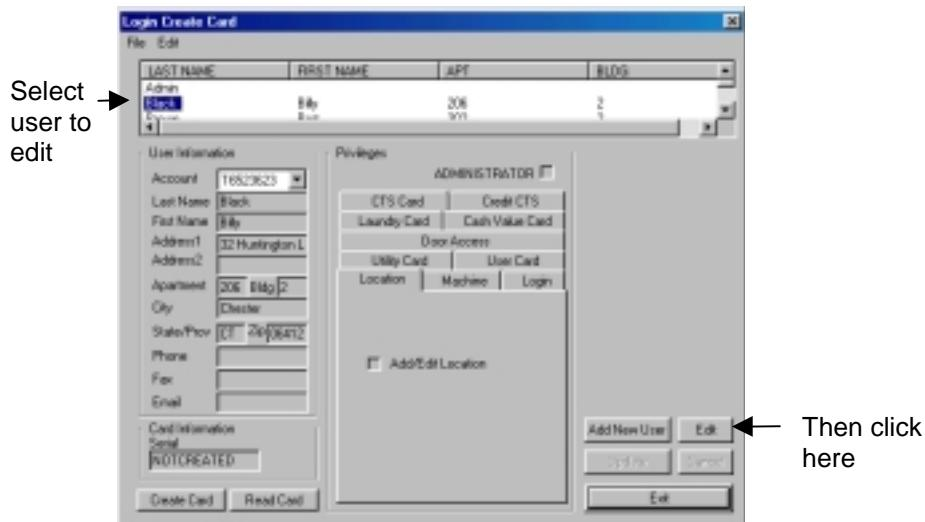

Figure 4.10 Editing Login Users
2. Select the user to be edited by clicking on their name in the User List Window (Figure 4.10).
3. Click the Edit button (Figure 4.10).
2. In the User List Window select user to reset card serial number for (Figure 4.10).